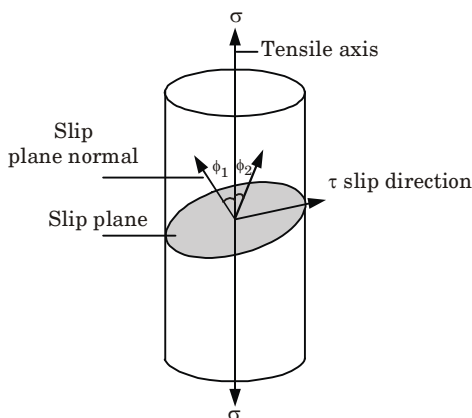

Fig. 1.19.1. The resolved shear stress τ on a slip plane along a slip direction depends on their orientation with respect to the tensile axis.
2. When a tensile stress σ is applied to a crystal, (Fig. 1.19.1), the shear stress τ resolved on slip plane whose normal makes an angle of ϕ_1 with the stress axis, along a slip direction inclined at an angle of ϕ_2 to the stress axis is given by